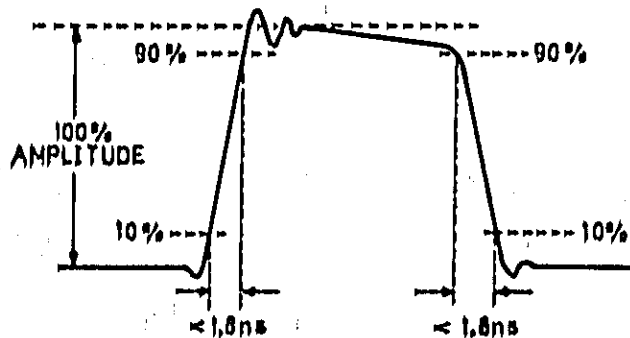

Figure 4-11b.
5. Expand the timebase of the sampling scope such that one transition completely fills the display. Verify that the transition time of first one edge, and then the other, is less than 1.8 ns, as in Figure 4-11b.